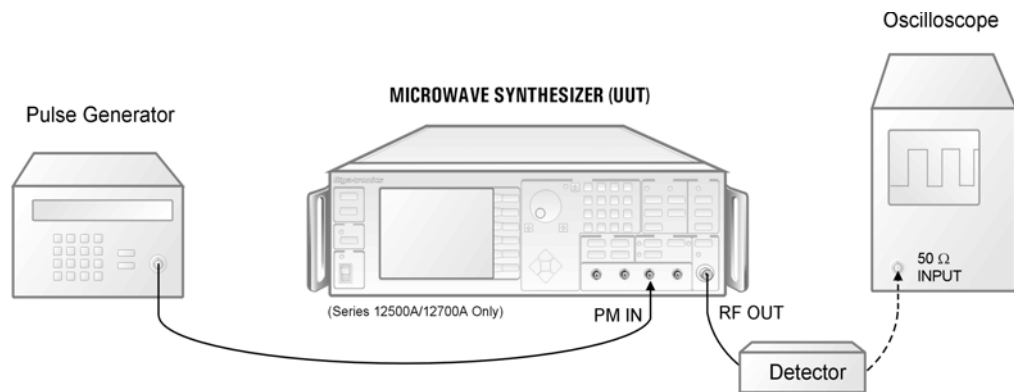

Figure 2-10: PM Overshoot and Setting Time
1. Connect the equipment as shown in Figure 2-10. The cable from the detector to the oscilloscope should be kept as short as possible.